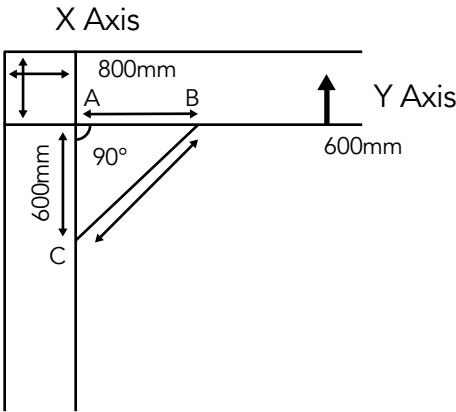

Figure 7: Square Layout from the Wall
7.4.5 Square Layout from the Wall (See Figure 7)